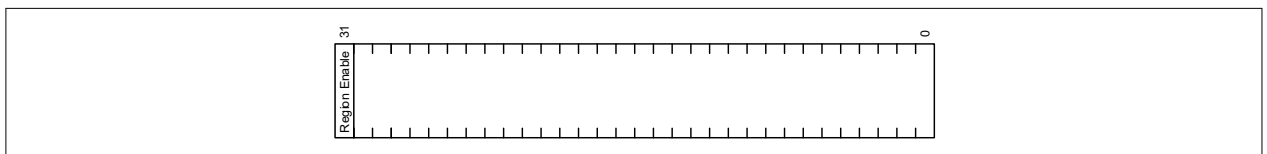

Figure 17 Composition of size elements
- **FWPUx_SIZE_[3:0], ERPUx_FUSE_SIZE_[3:0], EWPUx_FUSE_SIZE_[3:0]:** These elements set the area size to be protected by each protection unit. The MSb indicates that the region is enabled when set to '1'. Figure 17 shows the composition of each element